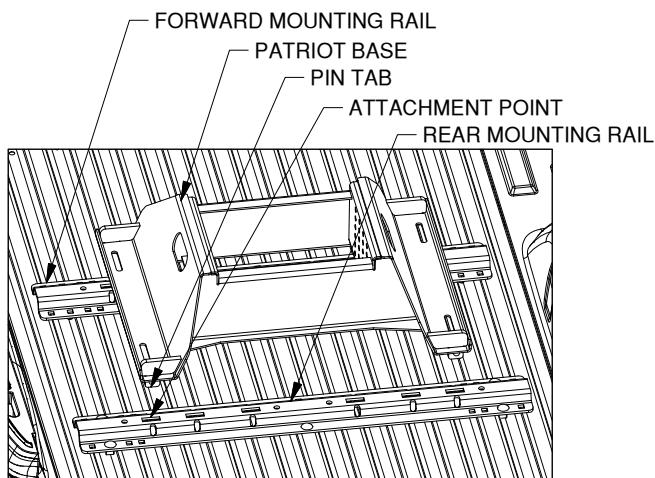

Figure D3: View looking into truck bed from tailgate.
3. **Position the forward mounting rail.** For this step the base which will be used in the mounting rails is required. Place a mounting rail into the truck bed in front of the rear mounting rail. Place the base over the rail attachment points and carefully lower it until the pin tabs pass through the attachment points on the rear mounting rail. Attach the forward mounting rail to the forward mounting points on the base. The base should rest flat against the top of the rails. See Figure D3. With the base still attached ensure that the forward rail is centered in the truck bed.